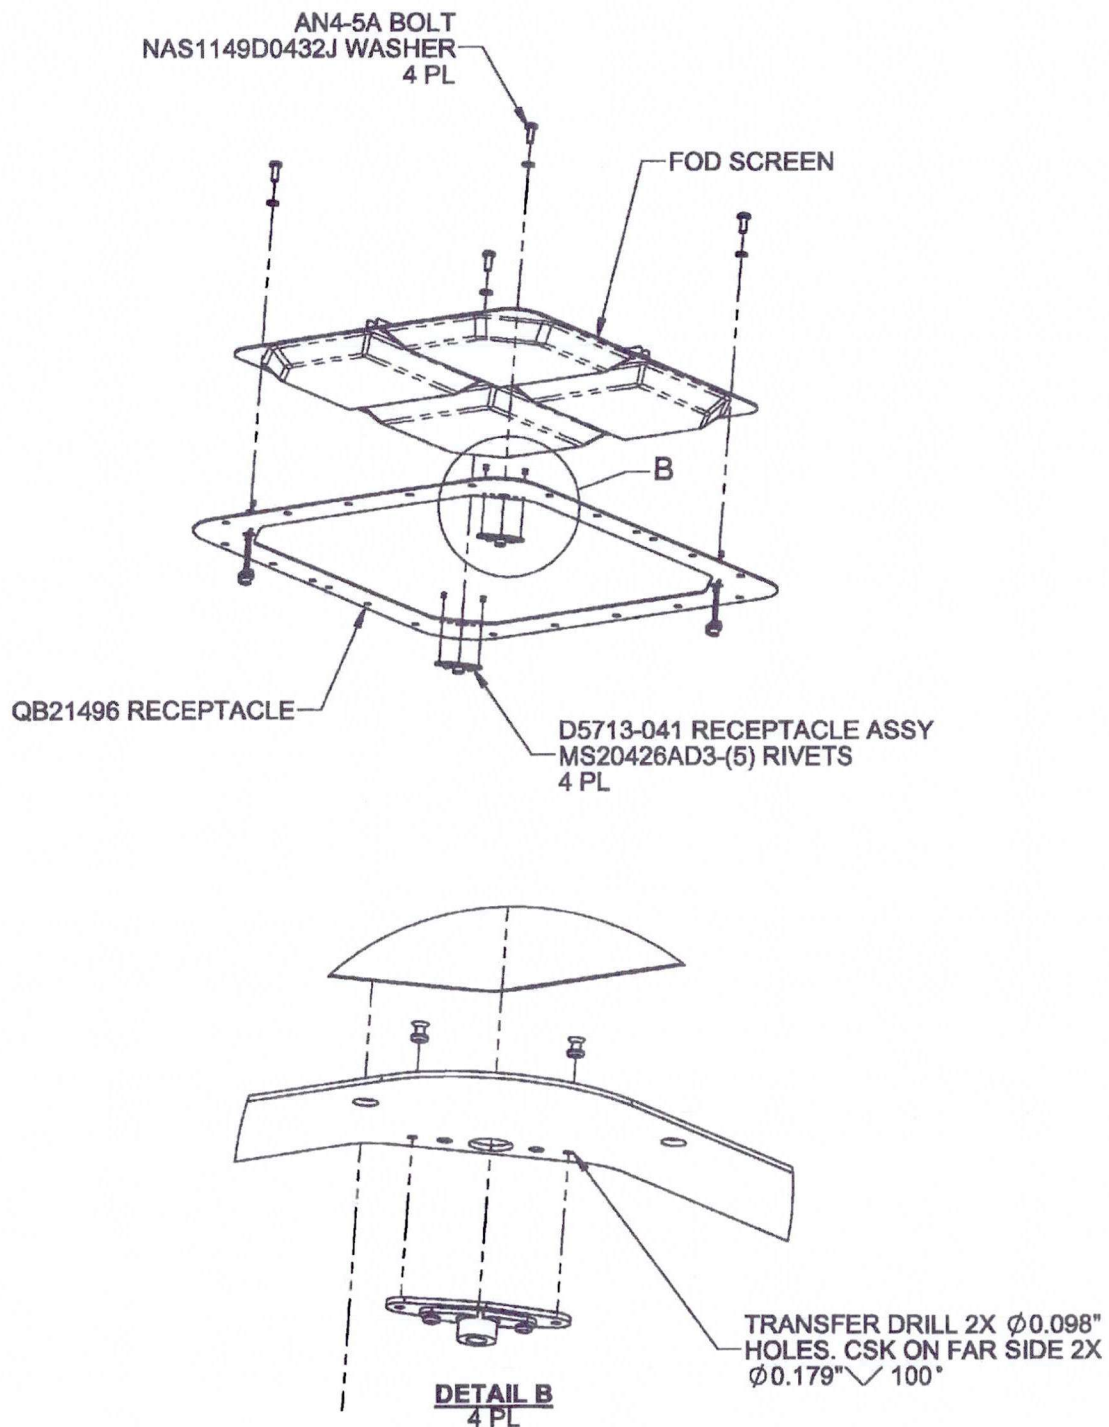

Figure 2 - DSI 9815-011 Replacement Receptacle Kit
- 2.1.5 Position the qty(4) D5713-041 Receptacle Assy in the location shown in Figure 2. Transfer drill 2x $\phi 0.098$ " holes with CSK $\phi 0.179$ " $\angle 100^\circ$ on the top side from the D5713-041 Receptacle Assy to the QB21496 Receptacle. Touch up holes with Alodine 1200 per MIL-C-5541.
- 2.1.7 Install qty(4) D5713-041 Receptacle Assy with qty(2) MS20426AD3-(5) Rivets per Figure 2.
- 2.1.9 Reinstall the FOD screen on the QB21496 Receptacle using qty(4) AN4-5A bolts and qty(4) NAS1149D0432J Washers per Figure 2. Torque bolts to 50-70 in-lb (5.6-7.9 N-m).
2.3.2 Install the FOD Screen with qty(4) AN4-5A bolts and qty(4) NAS1149D0432J Washers per Figure 2.